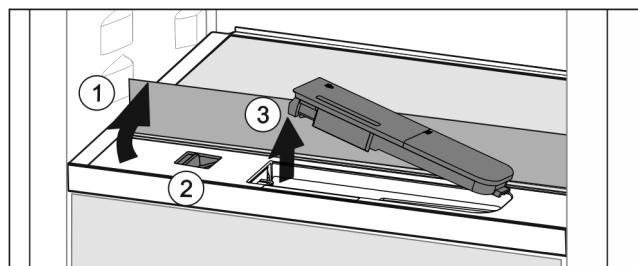

Fig. 120
- ▶ Lift the glass panel and fold to the back as far as it will go Fig. 120 (1).
- ▶ Slide the slider Fig. 120 (2) to the left.
- ▶ Remove the water tank Fig. 120 (3).